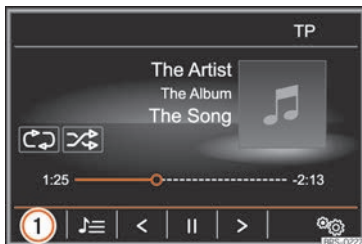

Fig. 204 MEDIA main menu.
- From the *Media* main menu, press the **[SOURCE]** function button **»» Fig. 204** and select the desired media source.